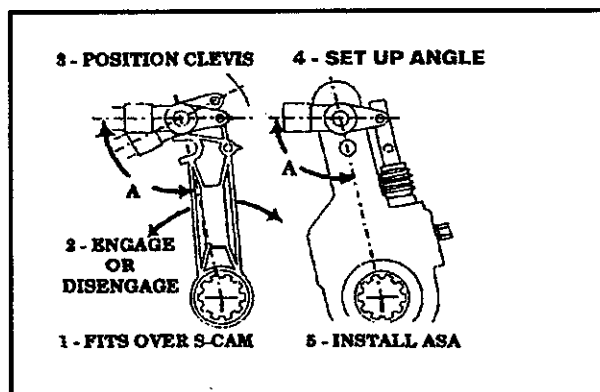

Figure 27—Template Angles
3. Fit installation template. (See Figure 27—Template Angles.)